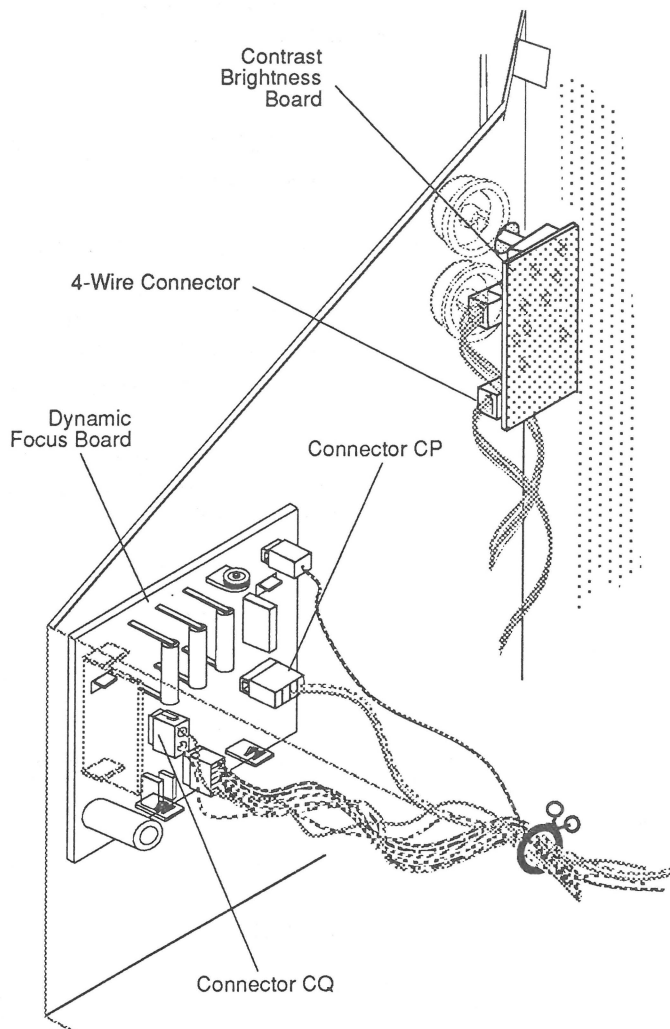

FIGURE 21
5. Disconnect the 4-wire connector from the contrast brightness board (**Figure 21**). Open the two tie wraps to the left of the neck of the CRT.
6. Disconnect the following connectors from the dynamic focus board (**Figure 21**):